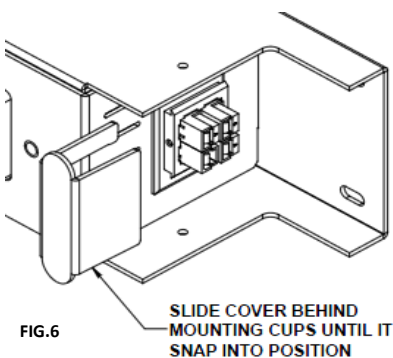

FIG.6
- 8- Attach the end cap (E) to the last power unit in the circuit if desired (fig.6).